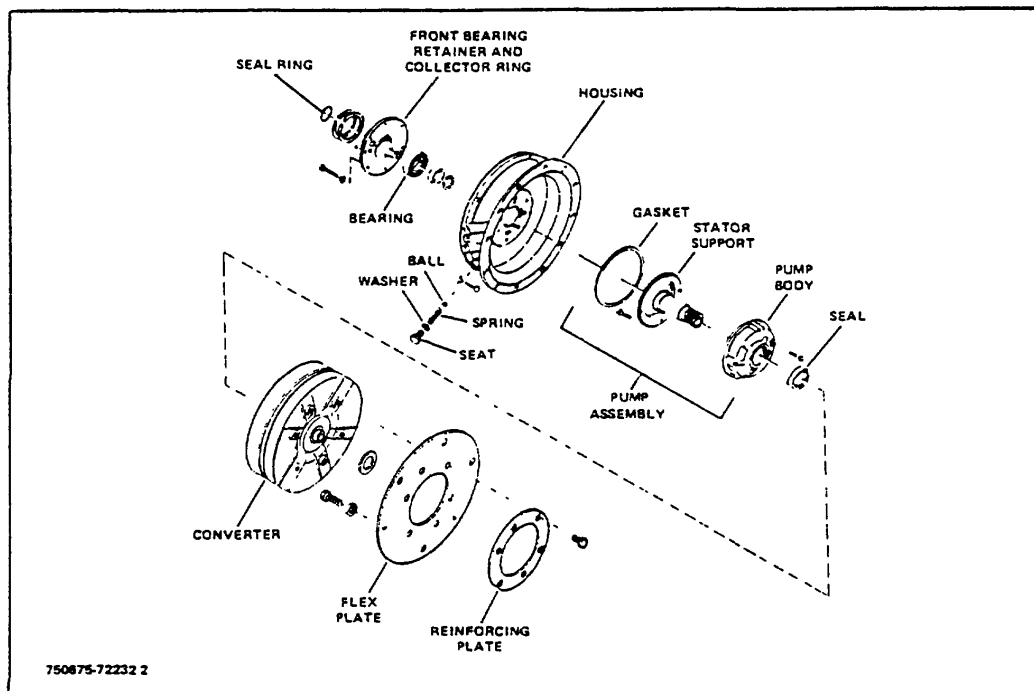

Figure 2-1. Torque Converter and Pump Assembly
3. Remove the seal rings and oil seal. (See Figure 2-1.)
3. Install the pump on the stator support making sure holes are properly aligned. See Figure 2-1.